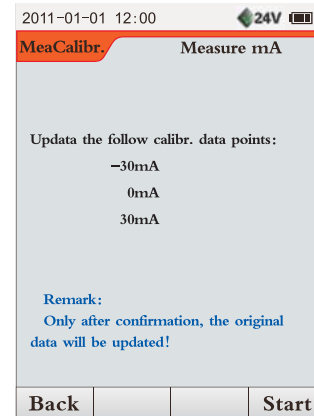

Figure 9.19 Current measure calibrate
b) As Figure 9.19, the calibrator will prompt the calibration points of the present item (  $-30\text{mA}$ ,  $0\text{mA}$ ,  $30\text{mA}$  ) .